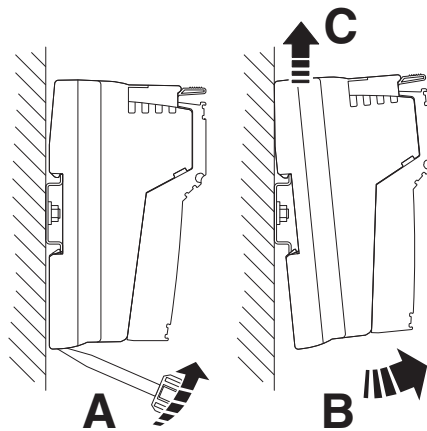

Figure 2-14 Removing the Inline controller (2)
- Insert a tool in the base latches of the Inline controller and pull gently upwards (Figure 2-14, A). Pull out the Inline controller from the DIN rail (Figure 2-14, B, C).